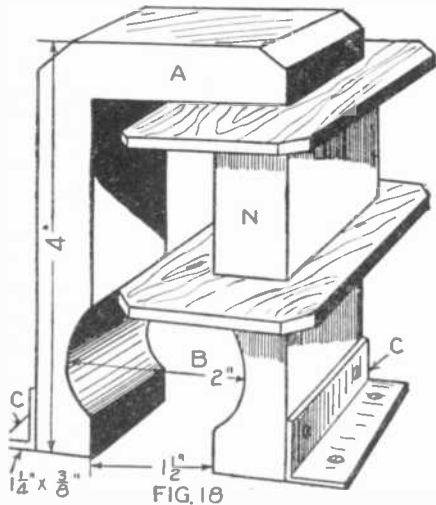

FIG. 18
thick. It must have legs four inches long, separated from each other a little over 1 1/2 inches (Fig. 18). In each one of the legs, three-eighths inch from the end, a groove (B) is filed out, which forms two arcs of a circle of two inches diameter, as indicated by the dotted lines. The magnet must be very nicely filed up in this place. To each end a brass angle (C, C), the same width as the iron, is soldered or screwed. This angle serves to screw the magnet down to its base. Before this piece is soldered on, each leg has to